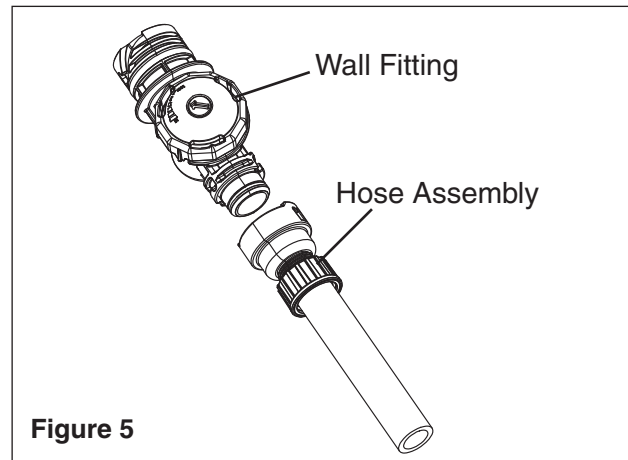

Figure 5
4. Attach the hose assembly to the wall fitting. See **Figure 5**. Then attach the wall fitting (with hose) to the wall adaptor. See **Figure 5**. Take the opposite end of the hose assembly and walk to the farthest point of the pool from the wall adaptor. **To prevent over stretching the hose, rest the hose on top of the pool water.** Measure the excess hose length (hose that extends beyond pool edge). This determines the amount of hose to be cut from sections 2 and 3.